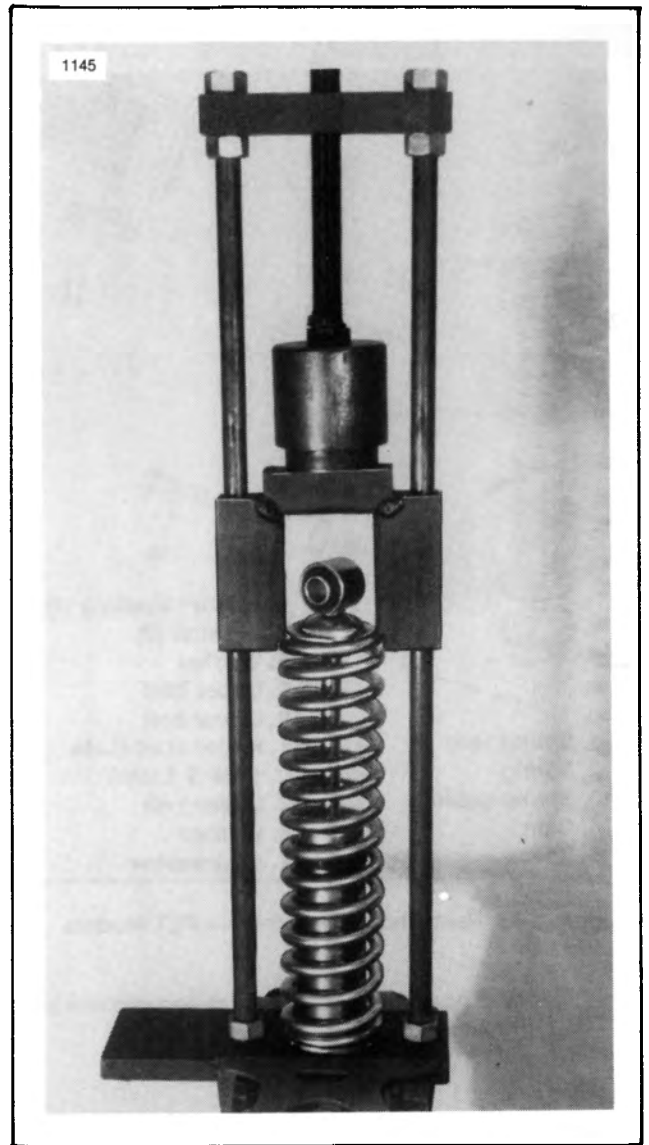

Figure 2-84. Disassembly Shock Absorbers
1. See Figure 2-84. Place the shock, cam side down, in SHOCK COMPRESSOR tool, Part No. HD-97010-52A. Place an extra pressing block in the tool to help compress the shock.